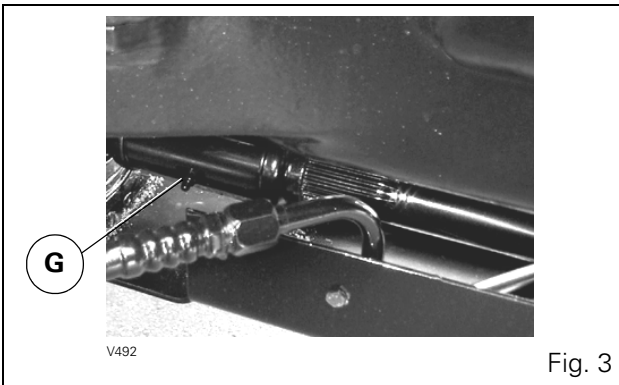

Fig. 3
3. 4WD drive shaft (rear and front) (Fig. 3)